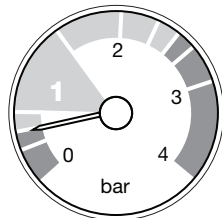

Fig. 2
4. The minimum pressure for correct operation is 0.5. If the pressure falls below 0.5, this may indicate a leak on the central heating system (Fig. 2). Error Code E1 I9 will be shown on the display.